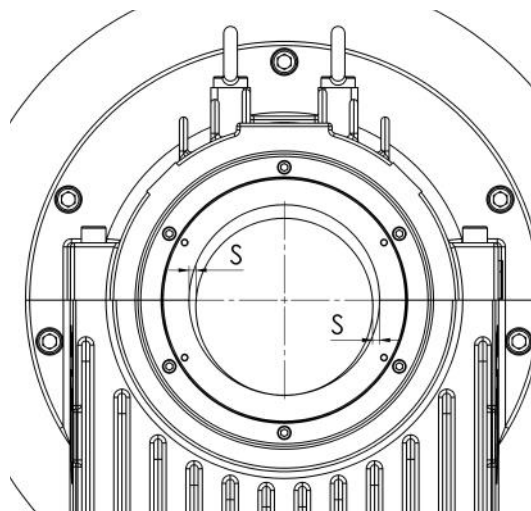

Fig. 46: Alignment of the rigid seal
- Place the upper part of the rigid labyrinth seal (18) on the shaft.
- Lightly press the lower part of the seal (19) onto the shaft from below.
- Hand-tighten the screws (17) at the split line.
- Adjust the lateral clearance "s" between the shaft and the rigid labyrinth seal (see fig. 46)
- Tighten the fastening screws (41) to the following torques.
- Tighten the fastening screws (17) of split line to the specified torques.